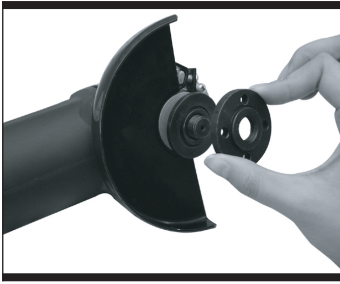

Fig C1
3. FITTING THE DISCS (See Fig C1&C2&C3)